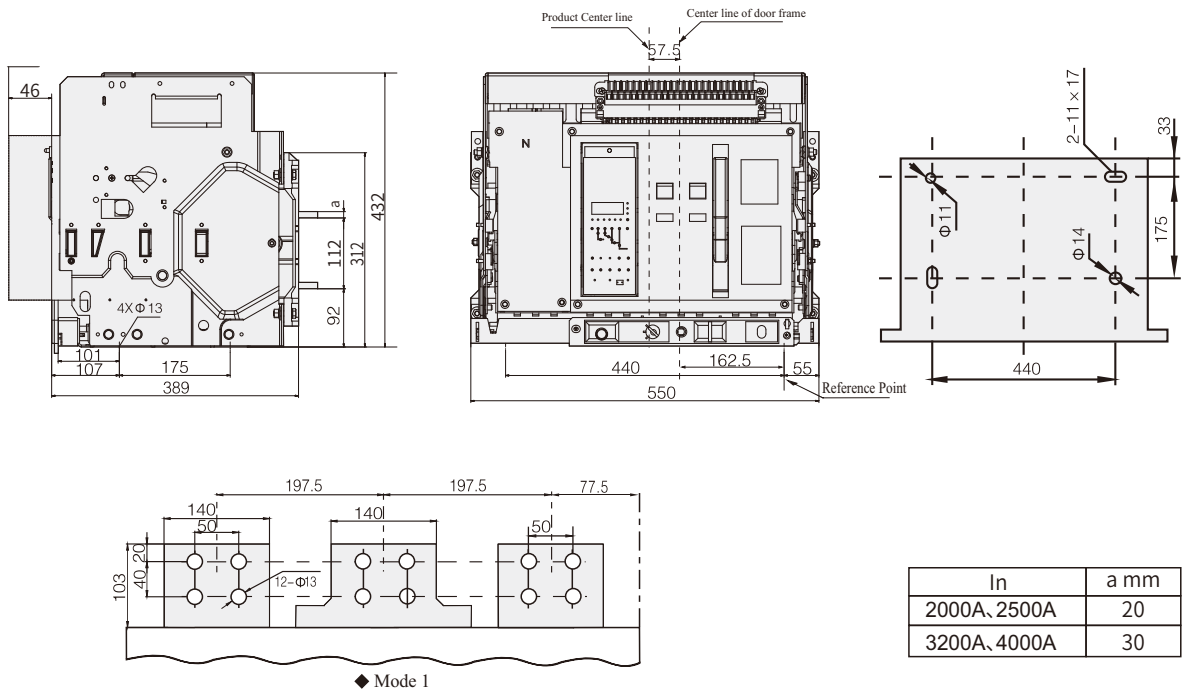

Figure 22 Installation of drawer circuit breaker and overall dimension (Inm = 4000A three-pole)
6.7 The shape of YCW1-4000A drawer circuit breaker and installation size are shown in the Figure 22.